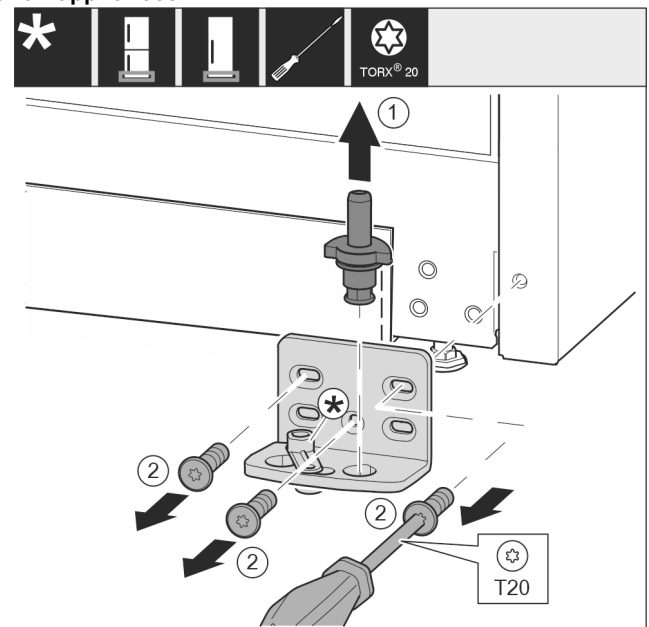

Fig. 12
- ▶ Lift the bearing pin completely upward and pull it out. Fig. 12 (1)
- ▶ Take out the screws with a T20 screwdriver and take off the bearing bracket. Fig. 12 (2)